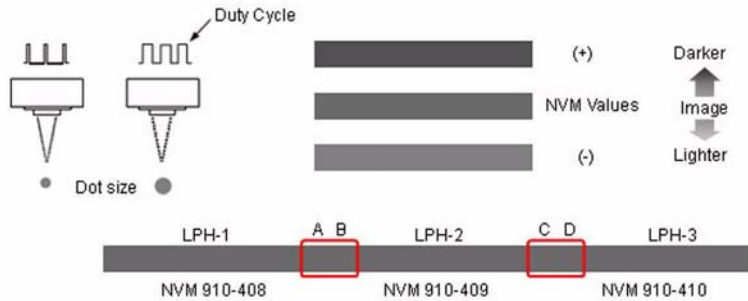

Figure 11 Effects of changing the NVM values
- When visual inspection indicates that there are density differences resulting from the exposure settings of the LED Print Heads, change the values in the following NVM locations to either increase or decrease the duty cycle (refer to Figure 11).